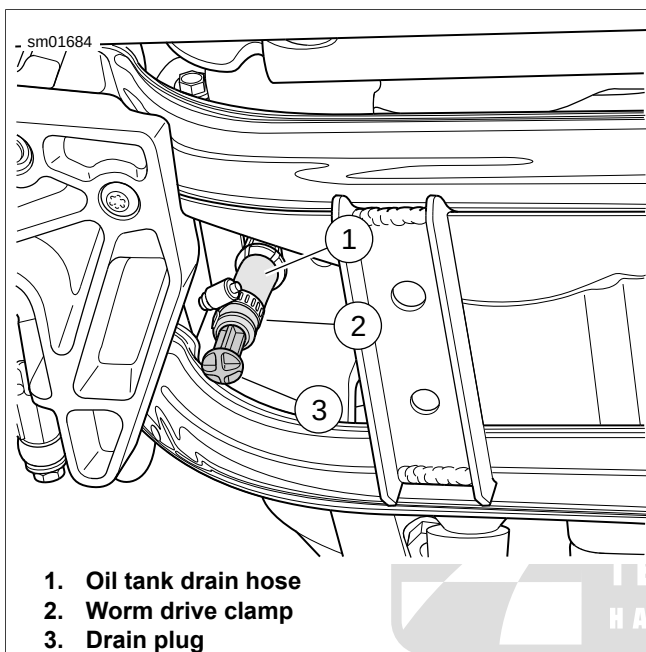

Figure 1-4. Oil Tank Drain Hose
3. See Figure 1-4. Place a suitable container directly under the drain hose (1) at the bottom rear of the engine crankcase. The container must be able to hold approximately 3.0 qt (2.8 L).
4. Loosen worm drive clamp (2). Pull drain plug (3) from end of drain hose. Completely drain engine oil from oil tank. Drain engine crankcase only if needed.